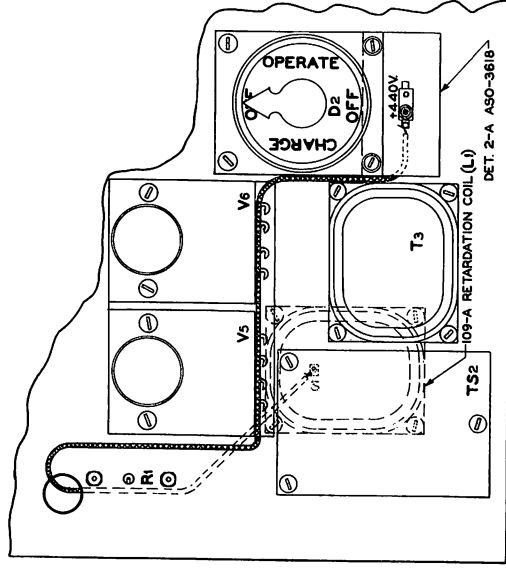

FIG. 2
- (b) Install new terminal plate assembly as per Fig. 2.
- (c) Remove amplifier from casing, and connect terminal 2 of L1 to new +440V terminal, using #18 Motor Lead, per Fig. 2